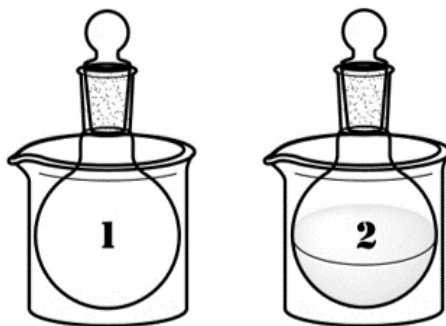

Figure 2. Weighing your cyclohexene product.
10. While waiting about 10 minutes for the Na_2SO_4 to absorb/remove any remaining water from the organic product, weigh a small round bottom flask **with stopper** held upright in a small beaker (see Figure 2).